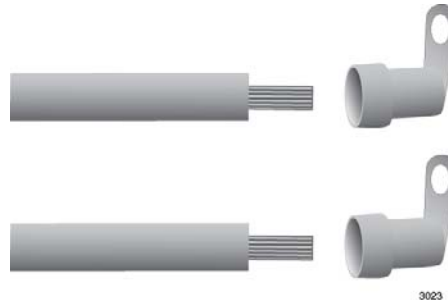

Figure 148. Attaching the Power Wires to the Right Angle Terminals
3. Insert the power wires into the right angle terminals included with the power supply and use a crimping tool to secure the wires to the terminals. See Figure 148,